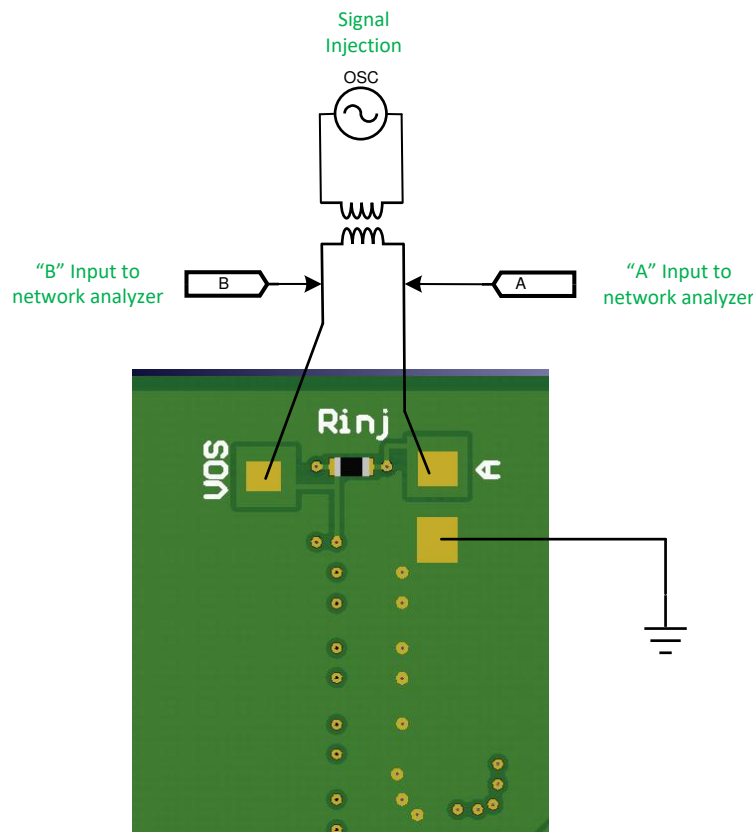

Figure 5. FRA Setup
- **A** - Connection for frequency response analyzer (on bottom of board). See Figure 5.